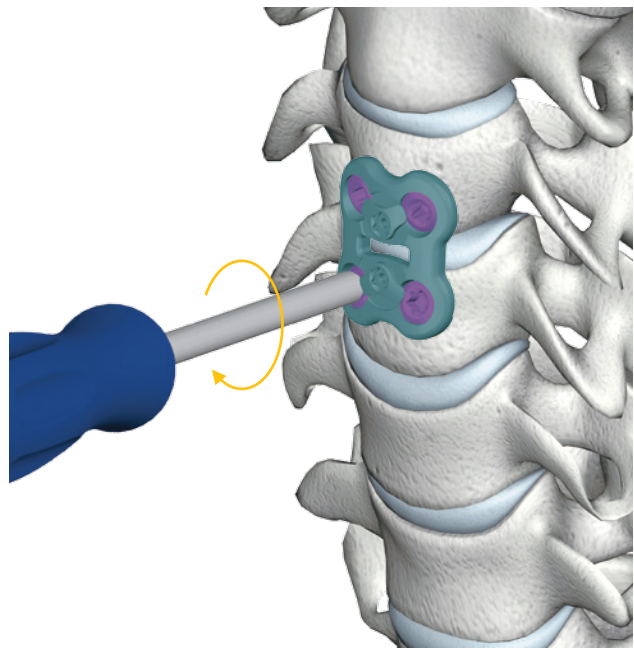

Figure 16
- Rotate the CAP counter-clockwise until the CAP is parallel with the vertebral body (Figure 16). Be careful to ensure that the CAP is not over turned, as damage may occur.